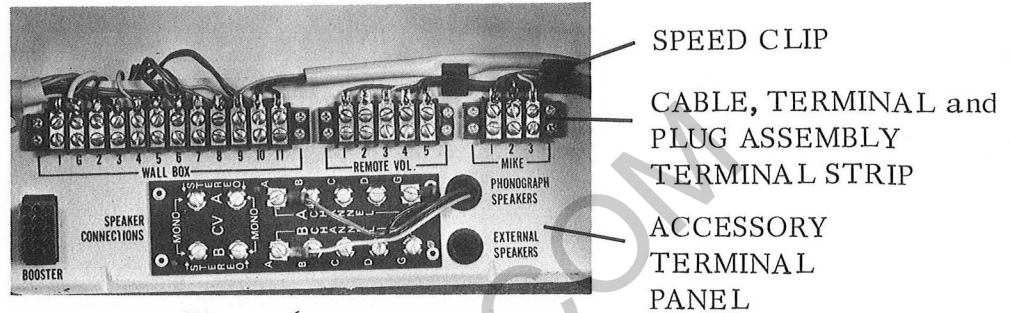

Figure 6.
18. Install CABLE, TERMINAL and PLUG ASSEMBLY TERMINAL STRIP on ACCESSORY TERMINAL PANEL, as shown in Figure 6, using four Screws, Part No. 73531-8.
19. Install SPEED CLIP, Part No. 73908-19, as shown in Figure 6.
24. Connect the three conductors and shield of three-conductor cable, to CABLE, TERMINAL and PLUG ASSEMBLY TERMINAL STRIP on ACCESSORY TERMINAL PANEL as shown in Figure 6. Utilize same color code employed in Step 21.